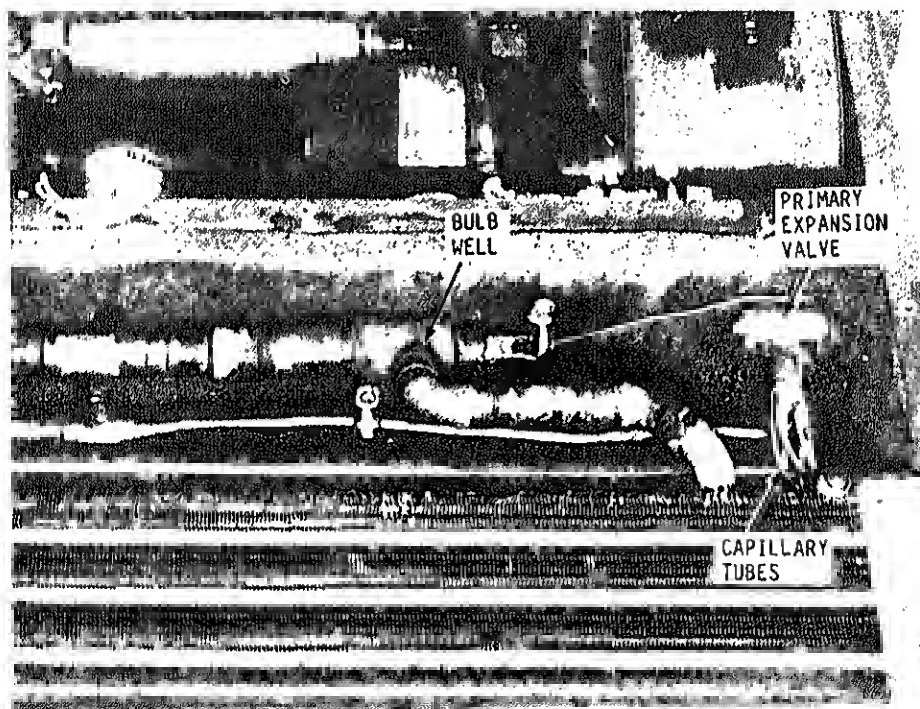

Figure 4-22. Expansion valve, primary
(2) Refer to figure 4-22 and paragraph 5-29c(4) and check that the required length of the expansion valve's sensing bulb is fully in the suction line bulb well.
(3) Refer to figure 4-22 and examine the flow restrictor capillary tube carefully. They should be very cold and evenly frosted. Unfrosted tubes are blocked and should be re-placed.
(4) If none of the capillary tube is cold and frosted, the valve is
c. Test. Test the power assembly by removing the valve's sensing bulb from the suction bulb well (figure 4-22). Hold the sensing bulb firmly in both hands for two or three minutes. The warmth from holding the bulb should put enough pressure on the bellows to start the refrigerant flowing into the system. *If cooling does not commence, the expansion valve is defective and should be replaced. Report all defects to direct support maintenance.*